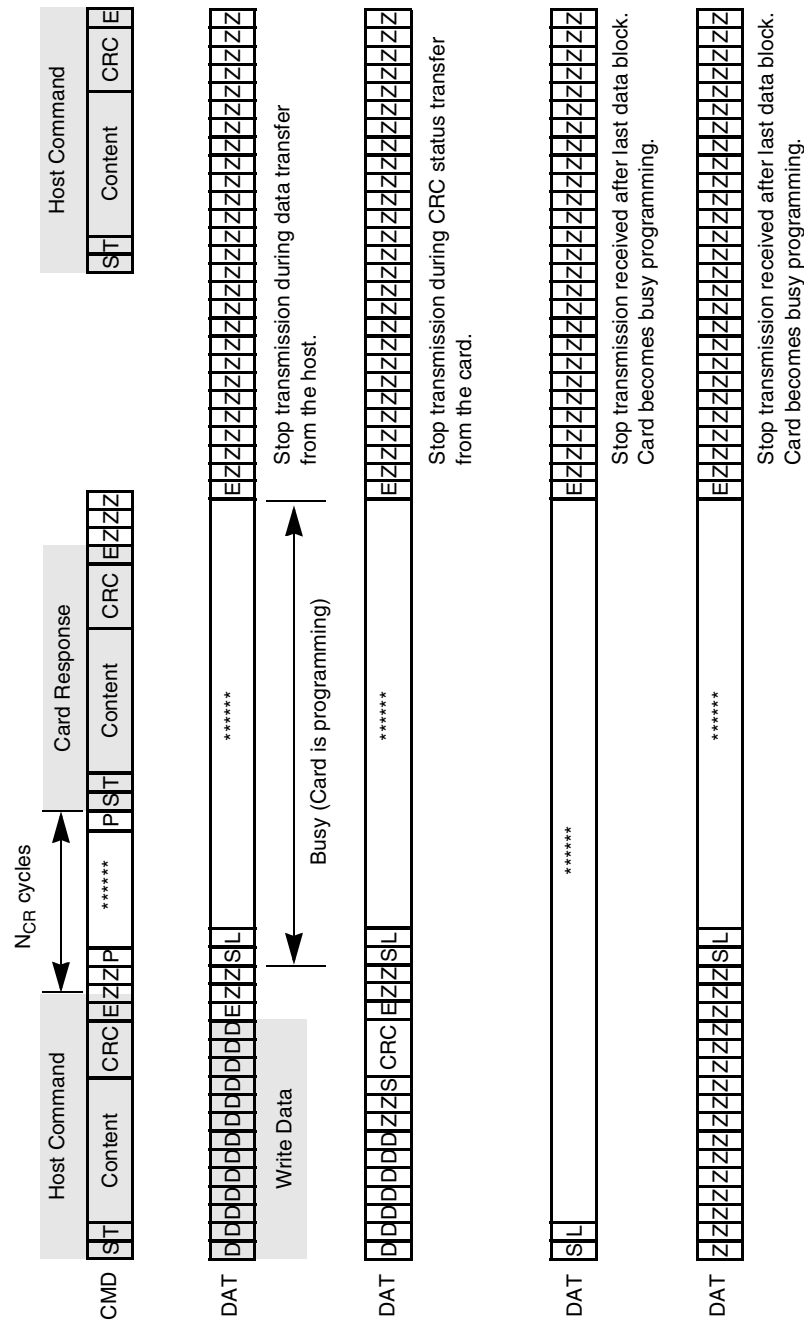

Figure 22. Stop Transmission During Different Scenarios
The card identification and card operation conditions timing are processed in open-drain mode. The card response to the host command starts after exactly  $N_{ID}$  clock cycles. For the card address assignment, SET\_RCA is also processed in the open-drain mode. The minimum delay between the host command and card response is  $N_{CR}$  clock cycles as illustrated in Figure 18. The symbols for Figure 18 through Figure 22 are defined in Table 22.
**Table 22. State Signal Parameters for Figure 18 through Figure 22**
The stop transmission command may occur when the card is in different states. Figure 22 shows the different scenarios on the bus.
Table 23. Timing Values for Figure 18 through Figure 22
Table 23. Timing Values for Figure 18 through Figure 22 (Continued)